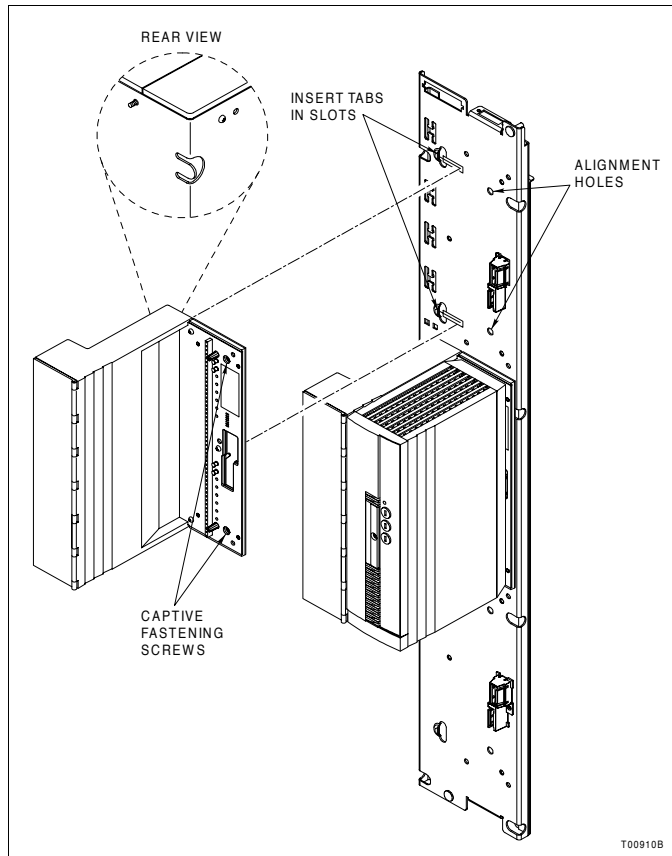

Figure PR5-1. Base Attachment
- a. Position the base on the mounting column. Insert the tabs at the back, left side of the base into the slots in the column as shown in Figure PR5-1. The base is properly positioned when the posts on the back of the base line up with the alignment holes in the column. The mounting column connectors should protrude through the base.